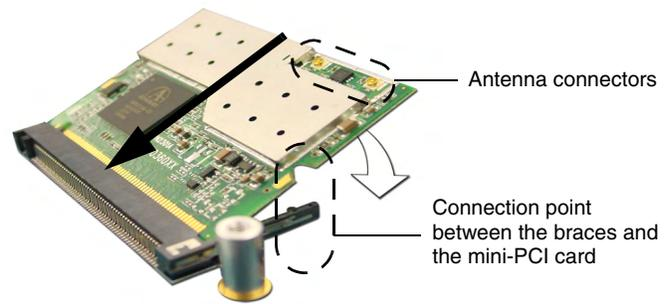

FIG. 5 Installation of the mini-PCI card connector on main board
4. While maintaining the 25° angle alignment on the new module, push it in firmly until the contact pins are completely inside the connector and the card "snaps" into place (FIG. 5).